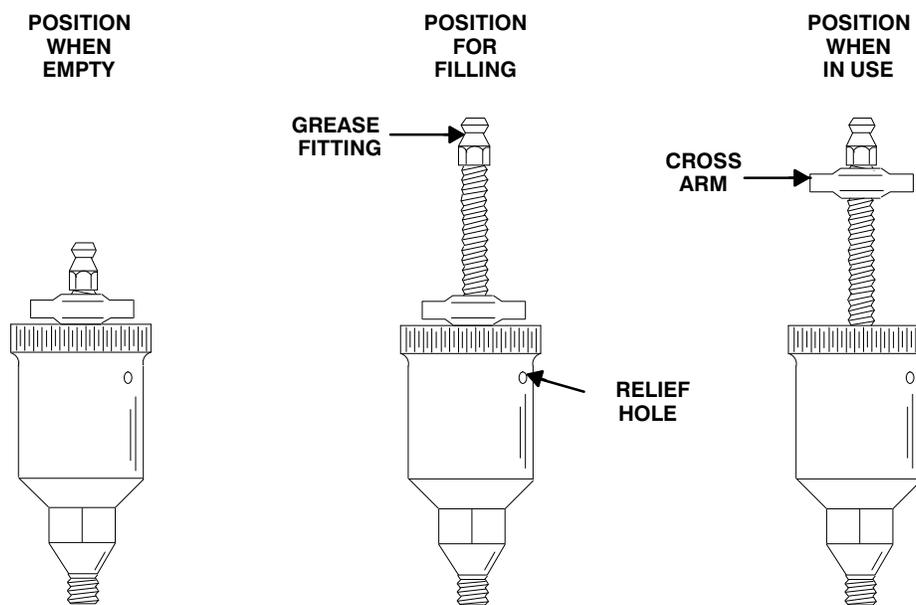

Figure 4. Automatic Lubricating Grease Cup
Fill the grease cup (9) through the grease fitting until grease escapes from the relief hole. Turn the grease cup arm counterclockwise until it is at the top of the stem; this will release the spring to apply grease to the seal (see Figure 4).